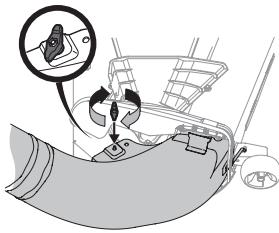

Figure 31
5. Secure the discharge chute elbow to the cutting deck using wing knob (720-04122) included with the hardware pack 689-02200. Refer to Figure 31.
6. Secure the discharge chute elbow to the cutting deck using wing knob (720-04122) included in hardware pack 689-02200. Refer back to Figure 31.